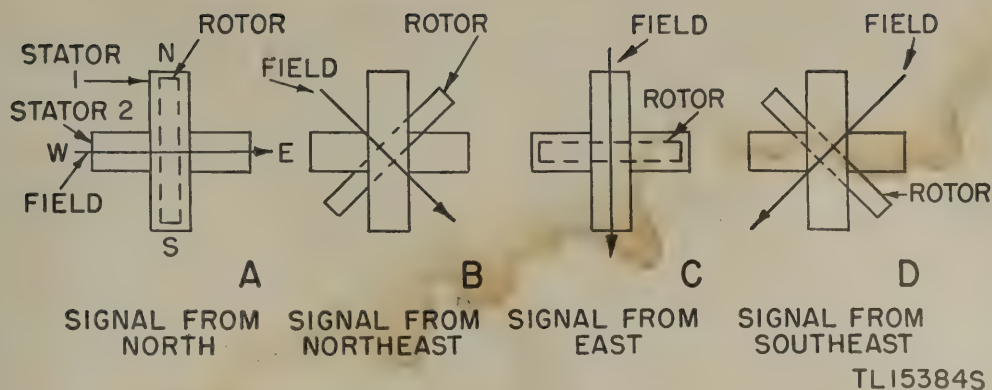

Figure 135. Goniometer coil arrangement, simplified diagram.
The simplified diagram of a goniometer coil arrangement (fig. 135) shows that stator 1, to which the output of the N-S antenna is applied, is effectively at right angles to stator 2, to which the output of the E-W antenna is applied. In other words, stators 1 and 2 are arranged so that there is a minimum of mutual coupling between them. The rotor R, however, can be rotated in the magnetic field produced by the two stators. When a signal arrives at the antenna, the resultant field in the goniometer is composed of two components: one caused by current through stator 1 and the other caused by current through stator 2. As the current in each of these windings is a function of the direction of wave arrival, so is the resultant field a function of the direction from which a signal arrives at the antenna.
a. **SIGNAL FROM NORTH.** When a signal arrives from the north (or south), there is no output from the E-W antenna to stator 2, and the output from the N-S antenna is maximum. Under this condition, therefore, the magnetic field produced by stator 2 is zero, and the resultant field is produced by stator 1 only. Consequently, the field lies along the axis of stator 1 (A, fig. 135). As the rotor revolves in this field, the *amplitude* of the rotor r-f output varies sinusoidally. This is similar to the way the output of a simple, single-turn armature varies with rotation between opposite poles in an a-c generator. Thus, with the rotor in the position shown in figure 135A, the rotor output is maximum, decreasing to zero as the rotor turns through  $90^\circ$  to E, *shifting  $180^\circ$  in phase (reversing in polarity) as the rotor passes through  $90^\circ$* , and increasing to maximum as the rotor approaches the  $180^\circ$  position (S). With continued rotation the output decreases to zero at  $270^\circ$ , shifts  $180^\circ$  in phase as the rotor passes through  $270^\circ$ , and increases to maximum as the rotor approaches its original position.
b. **SIGNALS FROM NORTHEAST.** When a signal arrives from the northeast (or southwest) the outputs of the N-S and E-W antennas are of the same amplitude, and equal currents flow through stators 1 and 2. Consequently, the resultant magnetic field lies in the position indicated in B, figure 135. The goniometer output is maximum when the rotor is in the position shown and minimum when the rotor is at right angles to this position.